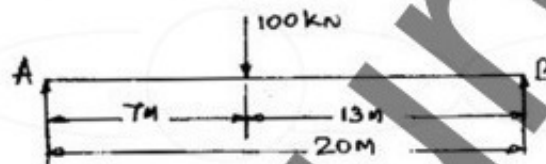

Fig Q1(c)
- c. Determine the Reactions 'RA' and 'RB' by using influence line diagram for beam loaded as shown in Fig Q1(c).